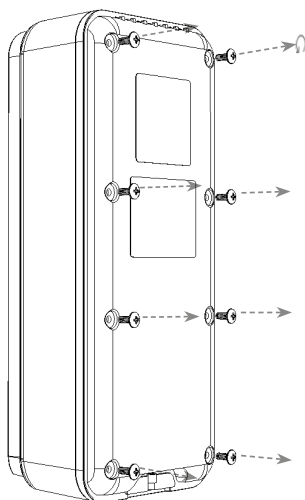

Figure 3-3 Remove 8 Screws
Step 2: Remove the 8 screws on the EZ-Swap Faceplate with a Phillips Screwdriver #2 and retain for later use, as shown in Figure 3-3.